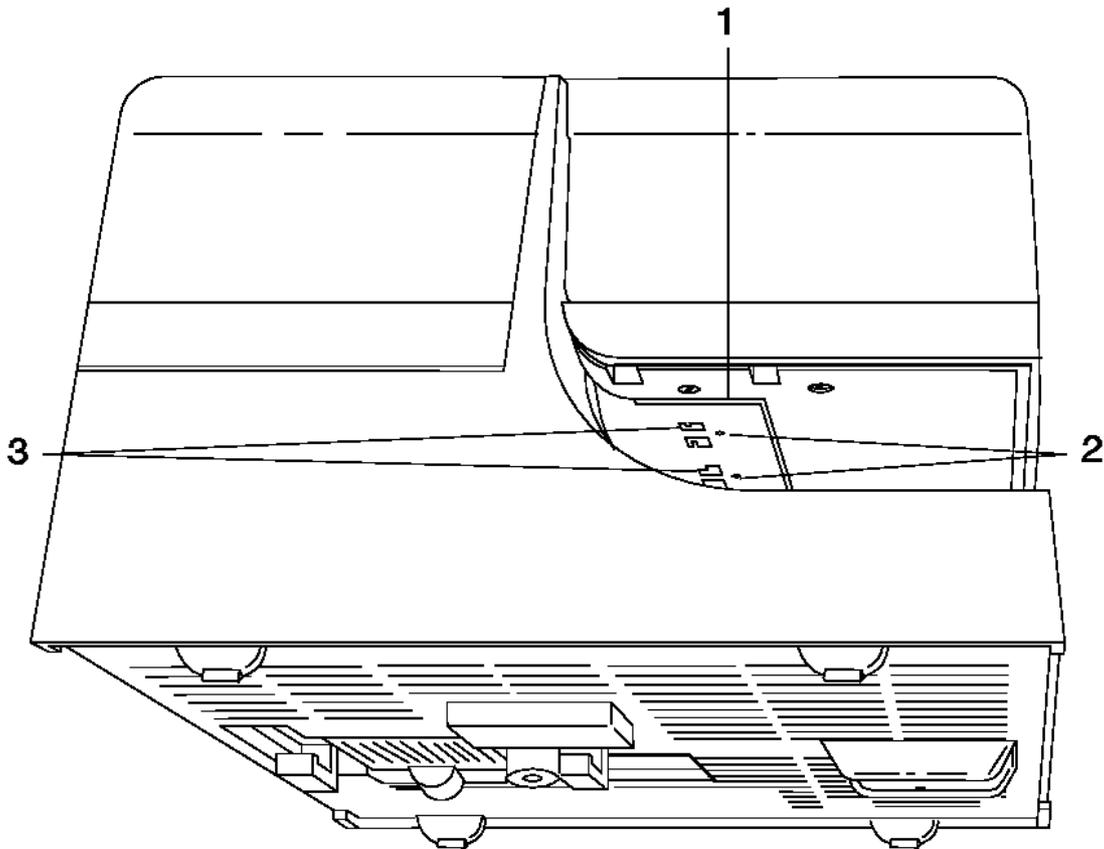

Figure 5-14. Document Insert Paper Guide
2. Set the printer as shown in Figure 5-14 in topic 5.5.7.2.
3. Gain access to the paper guide (1) through the document insert opening.
4. Lift the guide off the locating pads (2).
5. Move the guide toward the back of the printer until the holding tabs on the guide can be pulled out of the openings (3) in the frame.
2. Set the printer as shown in Figure 5-14
3. Put the paper guide (1) into place through the document insert opening.
4. Push the holding tabs through the openings (3) in the frame assembly.
7. Ensure that the guide is installed over the locating pads (2) and all four holding tabs are in place (the guide is against the bottom of the frame).